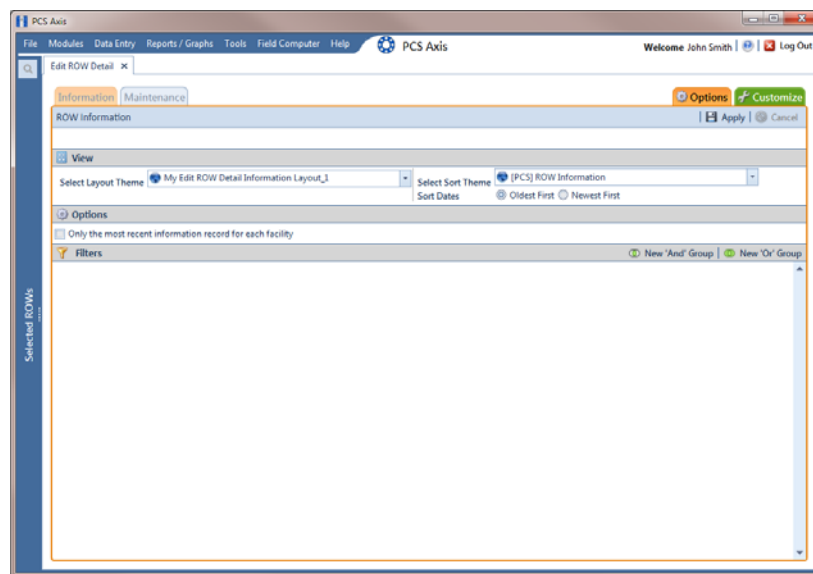

Figure 3-24. Options
- a Click the **Options** tab  to open the options page (Figure 3-24).